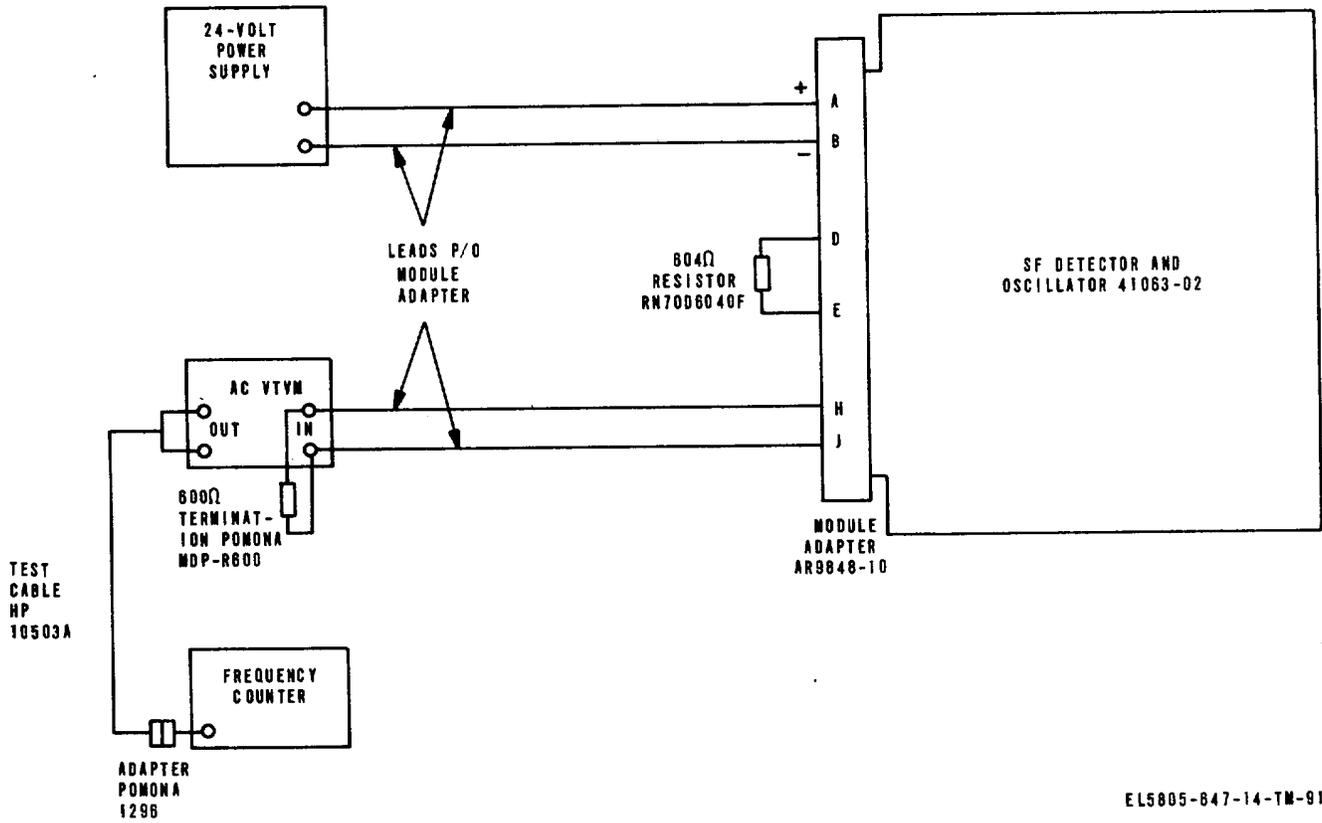

Figure 6-12. S. F. oscillator alignment, initial test setup diagram.
(1) Connect test equipment as shown in figure 6-12. Adjust power supply to provide 24 volts.
(2) Rotate potentiometer R71 to its maximum clockwise position.
(3) Depress switch S1. Ac vtvm should indicate a minimum of 0 dbm and the frequency counter should indicate 3,250 + 5 Hz.
(4) If frequency is not within tolerance, tune L4.
(5) Turn off and disconnect test equipment.